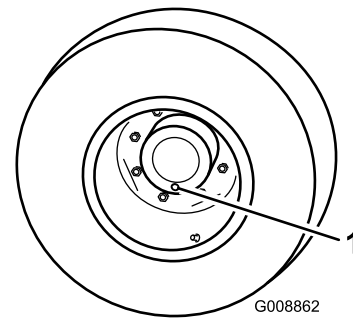

Figure 62
1. With the machine on a level surface, position a wheel so that one of the check plugs is at the lowest (6 o'clock) position (Figure 62).